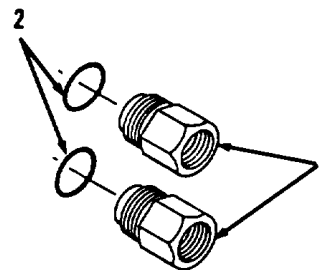

Figure 10-116.
2. Remove and discard two preformed packings (2) from adapters (1, Figure 10-116).